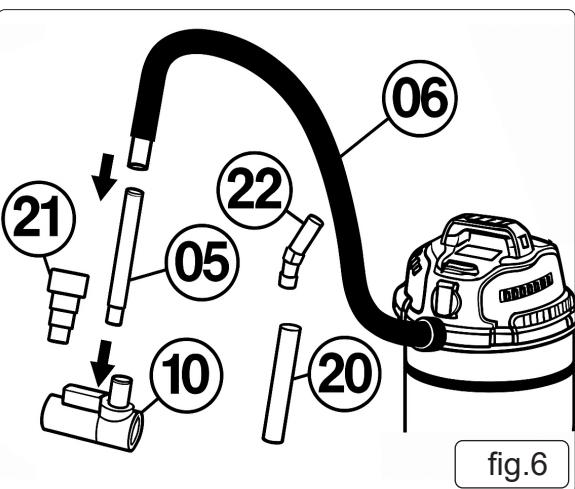
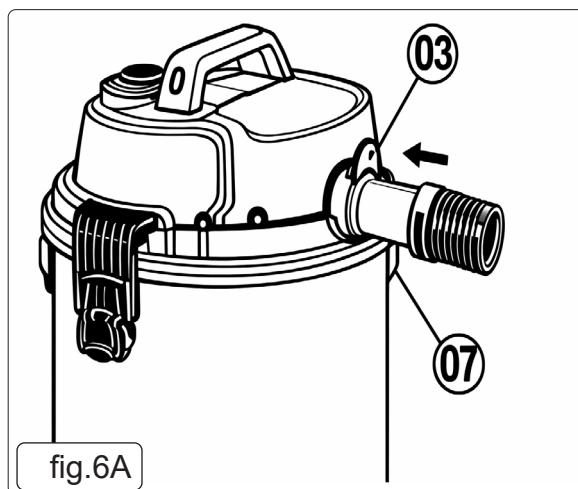

fig.6
fig.6A
- 5.5. Fig.6, connect the extension tube to the main suction inlet, then attach the floor nozzle to the distal end of the tube. For confined spaces, remove the floor nozzle and fit the crevice nozzle onto the tube. Attach silencer as in fig.6A